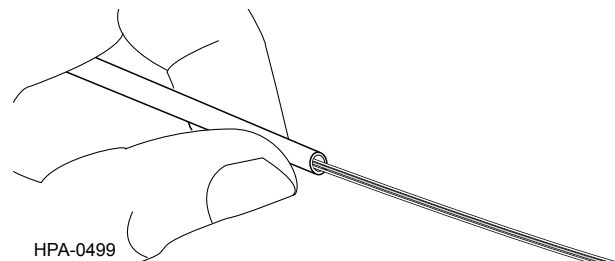

Figure 12
Step 4: Slide the scored section of tube off of the fibers (Figure 12).